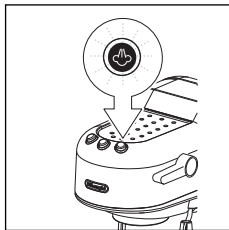

fig. 17
2. Press the steam button (fig. 17).
3. Wait for the steam indicator light on the steam button to come on (fig. 17). The steam indicator light indicates that the boiler has reached the ideal temperature for steam production.
6. When the required temperature is reached, interrupt steam delivery by rotating the steam knob clockwise. Then press the steam button (fig. 17).